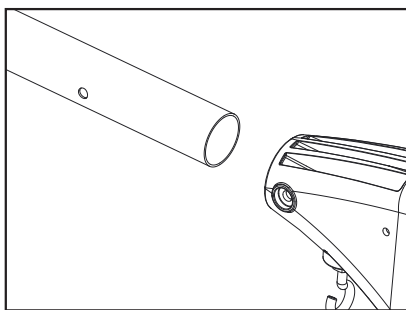

Figure 1
1. Insert boom into frame (Figure 1) and line up holes in boom with holes in frame.